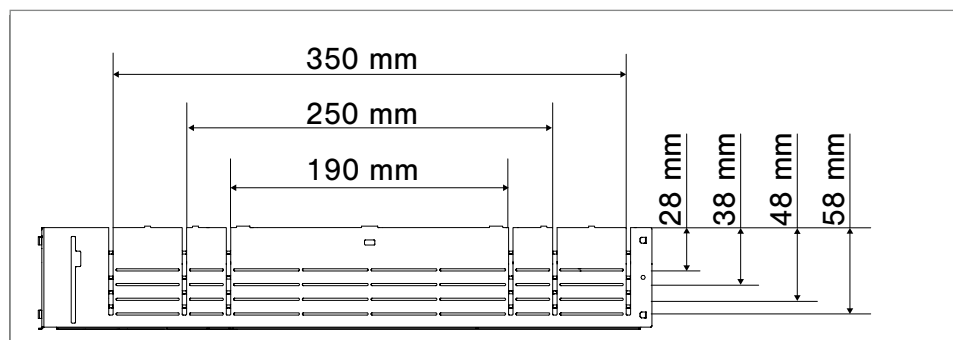

Fig. 30: Cutting the side wall – assignment of the duct height and width
- Turn the underfloor box ① through 180°.
- Cut the bridges of the side wall 21 according to the required duct height and duct width (see Fig. 30: Assignment of duct height/width).